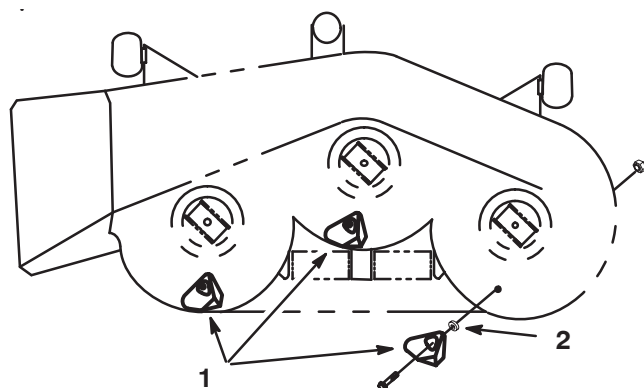

Figure 2
- Place the spacers and kickers inside the mower deck while aligning the mounting holes (Fig. 2).
- Secure each kicker to mower deck with a 5/16-18 x 1" bolt and 5/16-18 locknut (Fig. 2). The bolt heads are to be positioned inside the mower deck.